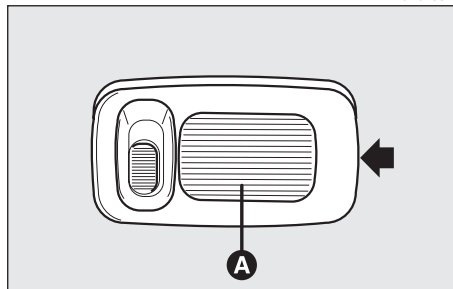

fig. 58
- Remove the roof light (**A-fig. 58**) levering in the point shown by the arrow.